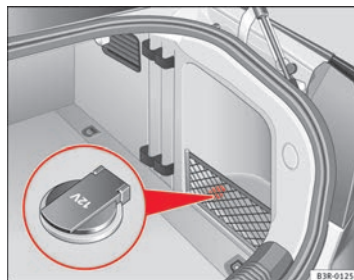

Fig. 127 Detailed view of the side trim in the luggage compartment: 12-volt socket
- Lift the power point cover ⇒ fig. 127.